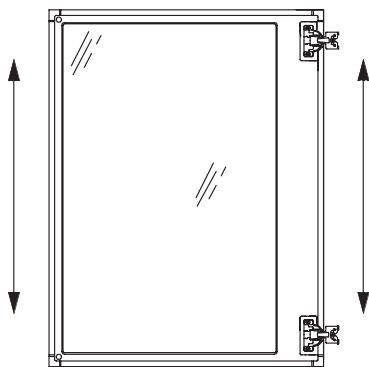

Fig. 10 图10
- This screw releases the door from the cabinet and allows up and down adjustment. Fig.10
- 此螺丝松开可将门卸下，并可作上下的位置调整，如图10所示。